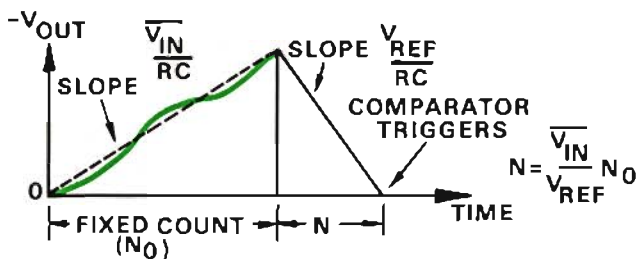

Figure 2. Integrator Output
(typically 1000, for a 3-digit meter), it tumbles over to zero, and the logic switches the integrator input to the V_{REF} position. V_{REF} , being opposite to V_{IN} in polarity, causes the integrator's capacitor to start discharging; at the same time, the counter starts counting. The input to the zero comparator is changing at a rate V_{REF}/RC , as indicated by the second slope in Figure 2. When the integrating capacitor's charge reaches zero, the zero detector triggers the logic to stop the counter. The counts accumulated up to that time (N) are proportional to the input voltage and are displayed on the digital readout.